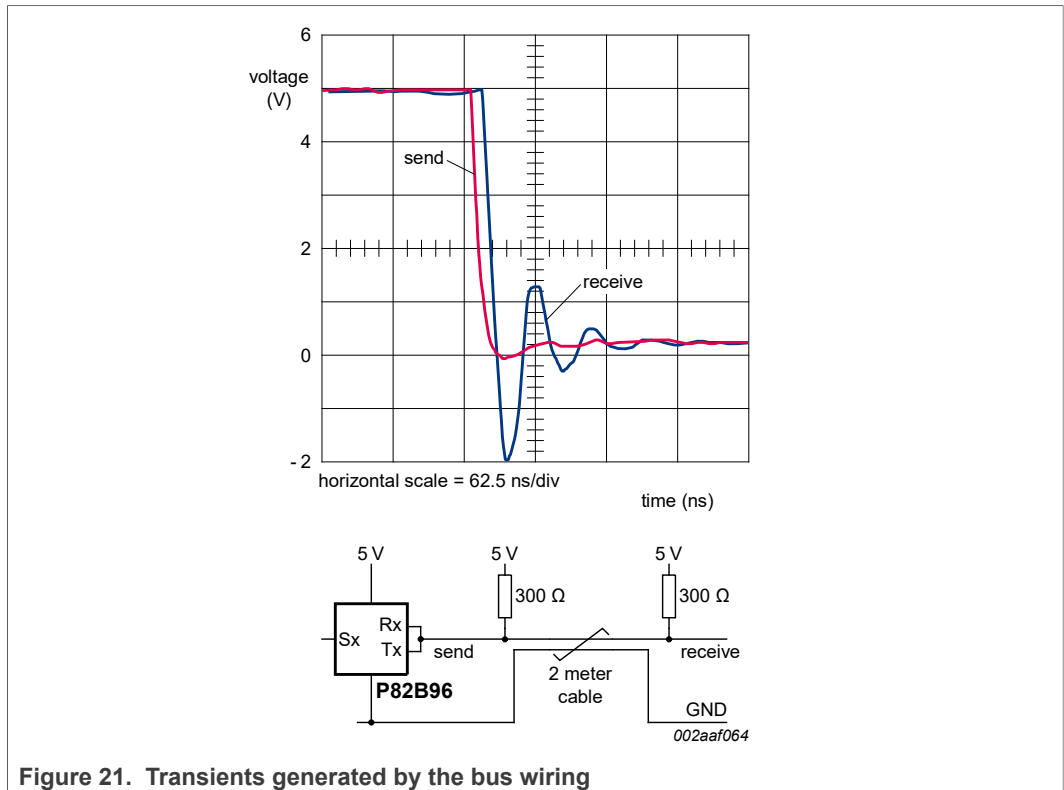

Figure 21. Transients generated by the bus wiring
**Answer:** For P82B96 the -0.3 V Absolute Maximum rating is not intended to apply to transients, it is a DC rating. As shown in Figure 21, there is no theoretical reason for any undershoot at the IC that is driving the bus LOW and no significant undershoot should be observed when using reasonable care with the ground connection of the ‘scope. It is more likely that undershoot observed at a driving P82B96 is caused by local stray inductance and capacitance in the circuit and by the oscilloscope connections. As shown, undershoot will be generated by PCB traces, wiring, or cables driven by a P82B96 because the allowed value of the I2C-bus pull-up resistor generally is larger than that required to correctly terminate the wiring. In this example, with no IC connected at the end of the wiring, the undershoot is about 2 V.